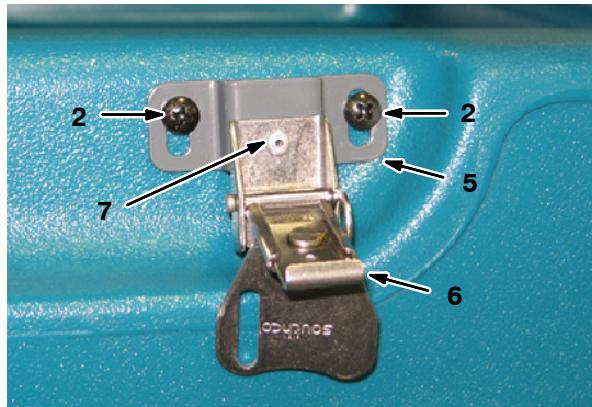
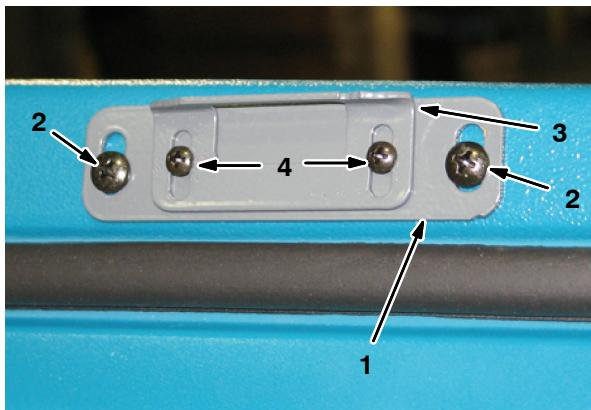

FIG. 1
FIG. 2
NOTE: If the existing latch mounting plate on the solution tank cover is the same as the new latch mounting plate (1) included in this kit, either install the new latch mounting plate and remove / discard the existing latch mounting plate, or leave the existing latch mounting plate and discard the new latch mounting plate (1). Refer to Fig. 2.
2. Use two aluminum blind rivet (7) to install the latch (6) onto the latch mounting bracket (5). Refer to Fig. 1.
3. Use two plastic screws (2) to install the items assembled in the previous two steps onto the solution tank. Refer to Fig. 1.
4. Use two plastic screws (2) to install the latch mounting plate (1) onto the solution tank cover if the latch mounting plate was removed in Step 1. Refer to Fig. 2.
5. Use two pan screws (4) to install the tank cover latch catch (3) onto the latch mounting plate (1) and solution tank cover. Refer to Fig. 2.
*NOTE: If there are no existing holes to secure the latch mounting plate (1) to the solution tank cover, drill an additional hole through each of the elongated holes in the latch mounting plate and the lip of the the solution tank cover. **DO NOT** drill completely through the top of the cover.*
7. If necessary, loosen the two pan screws (4) to adjust the position of the tank cover latch catch (3) on the solution tank cover or the plastic screws (2) to adjust the position of the latch mounting bracket (5) on the solution tank if the latch does not adequately secure the cover into place, or if the cover is difficult to secure. Refer to Fig. 1 and Fig. 2.